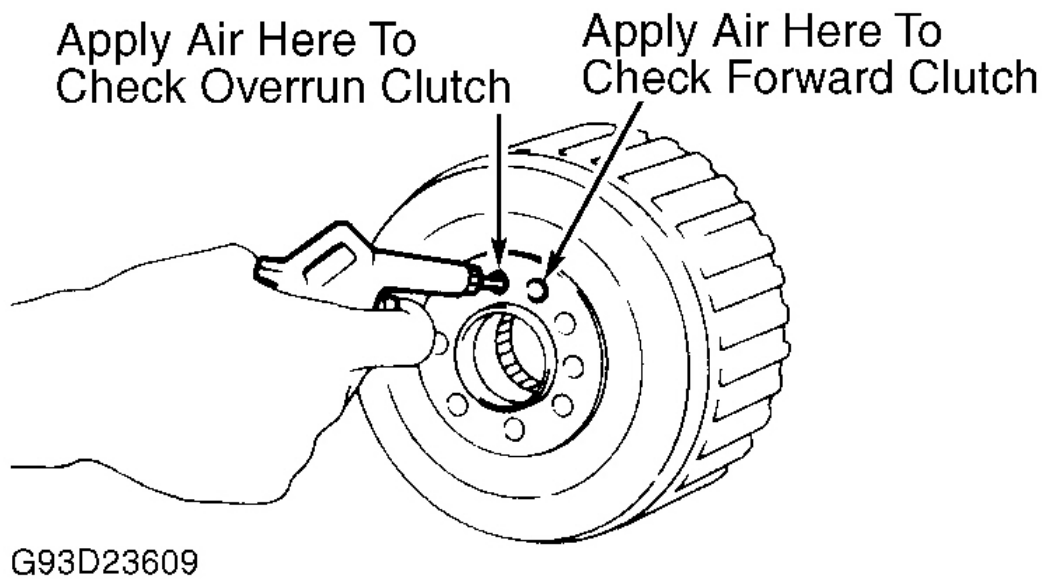

Fig. 36: Checking Forward & Overrun Clutch Operation
4. Check forward and overrun clutch operation. Install bearing retainer on forward clutch drum. Apply compressed air to appropriate oil hole of forward clutch drum. See **Fig. 36**. Ensure retaining plate moves toward snap ring. If retaining plate does not move as described, "D" ring or oil seal may be damaged.